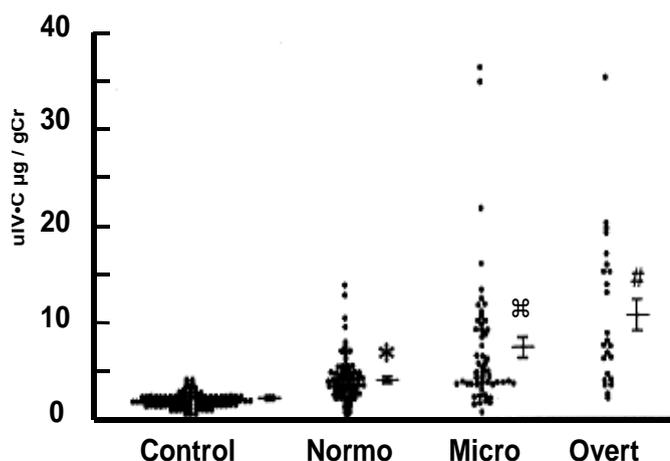

Figure 1. Urinary collagen IV in diabetic subjects with various stages of diabetic nephropathy³.
Type IV collagen (IV•C), is a major component of the basement membrane (BM), and it is considered to constitute its basic framework. Urinary collagen IV levels are elevated in a variety of renal pathologies¹, particularly diabetic nephropathy²⁻⁸. Urinary collagen IV is significantly higher in patients with non-insulin dependent diabetic mellitus (NIDDM) than in normal subjects and urinary collagen IV levels correlate with the deposition of collagen IV in the kidney². In diabetic subjects, urinary collagen IV is significantly increased in patients with microalbuminuria or overt proteinuria as compared to those with normoalbuminuria³ (Figure 1). Moreover, in diabetics with normoalbuminuria, those with elevated urinary collagen IV were at an increased risk for progression to microalbuminuria⁴. Intensive therapy of diabetic nephropathy can slow the temporal increase in urinary collagen IV in diabetics indicating the potential of urinary collagen IV for studying the renal effects of new therapies⁵. These results suggest that the measurement of UIV•C might provide a useful biomarker for studying diabetic nephropathy. In the field of renal transplantation, renal collagen IV levels are increased⁹ and increased urinary collagen IV levels are found in acute renal rejection¹⁰, indicating the potential value of urinary collagen IV in studying these conditions.